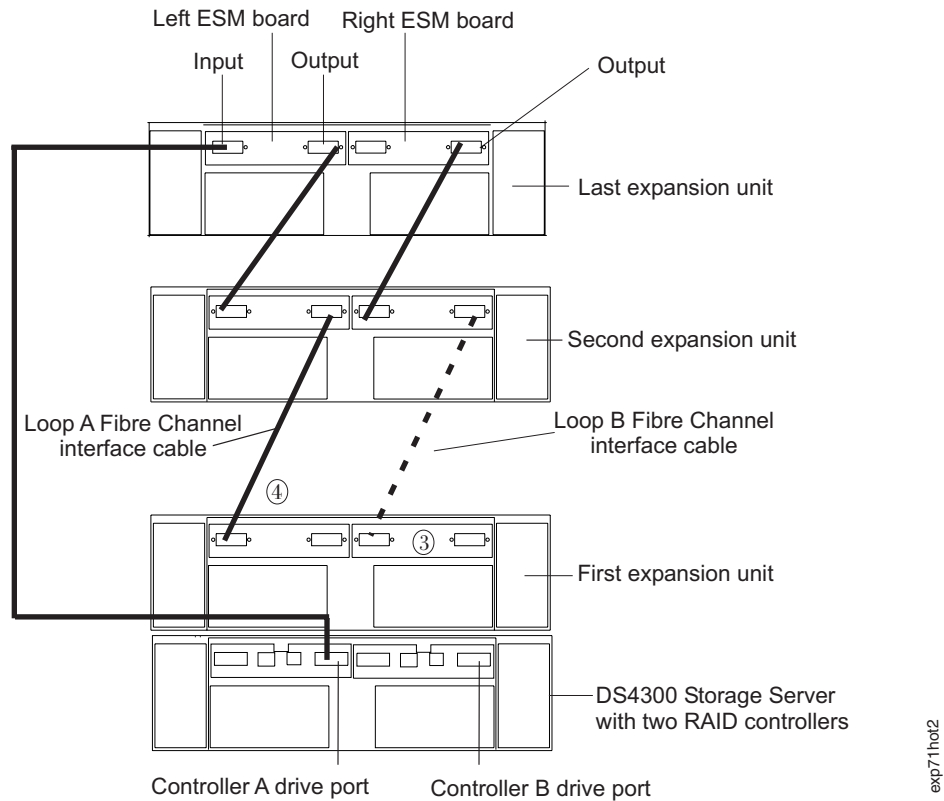

Figure 65. Disconnect the remaining fibre channel cables from the first ESM in the disconnected drive loop
- a. Disconnect any fibre channel cables from the first ESM (marked 3 in Figure 65 on page 99) that you will replace in the disconnected drive loop. Leave in place the fibre channel cables connected to the other ESMs in the disconnected drive loop. In Figure 65 on page 99, the cable to be removed is shown with dashed lines and marked 2.
- b. Replace the disconnected DS4000 EXP700 ESM (marked 3 in Figure 65) with one of the upgrade ESMs you received in the DS4000 EXP700 Models 1RU/1RX Switched-ESM Option Upgrade Kit. Follow the steps for replacing an ESM in “Replacing a failed hot-swap ESM” on page 78.
12. Repeat steps 6 through 10 to upgrade the ESMs in the second drive loop. Begin by disconnecting the fibre channel cable that connects the left-hand storage server controller drive port to the first storage expansion enclosure (marked 4 in Figure 65 on page 99) . You will reconnect this cable only after you have replaced all the ESMs to be upgraded in the second drive loop.